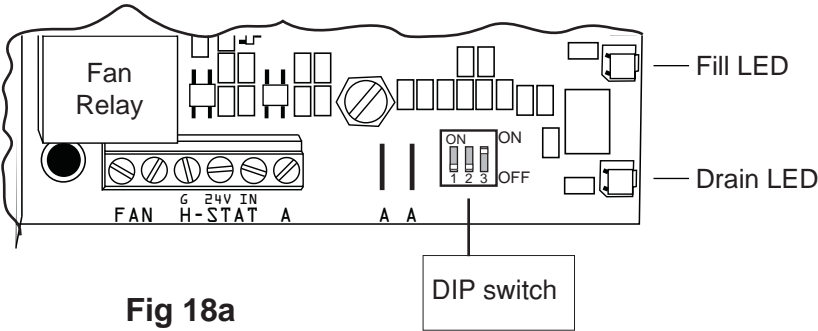

Fig 18a
18.5 Adjusting the DIP switches, located on the lower right corner of the circuit board (see Fig 18a), will change how the humidifier determines automatic tank flushes. The humidifier will completely drain and refill with fresh water after a set number of “refill cycles”. **Every time the unit replenishes the tank while producing steam is counted as one cycle.** The table below shows how to set the DIP switches in order to make the unit flush the tank at different intervals. To keep deposits in the tank to a minimum, by factory default the tank will flush every 30 cycles which equals approximately 5 hours of operation. Choose the cycle setting best suited to the hardness level of the supply water.